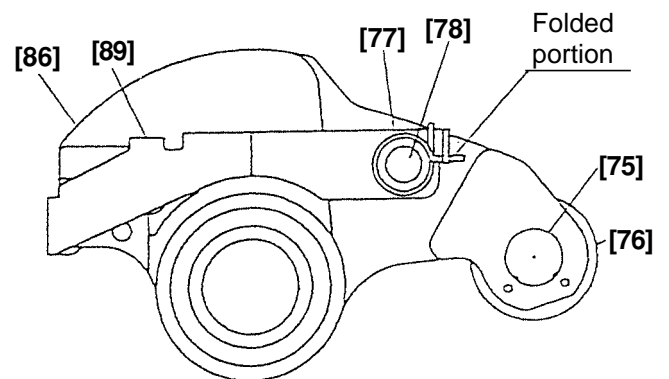

Fig. 23
(4) Reassembly of bracket (A) unit (Fig. 23)